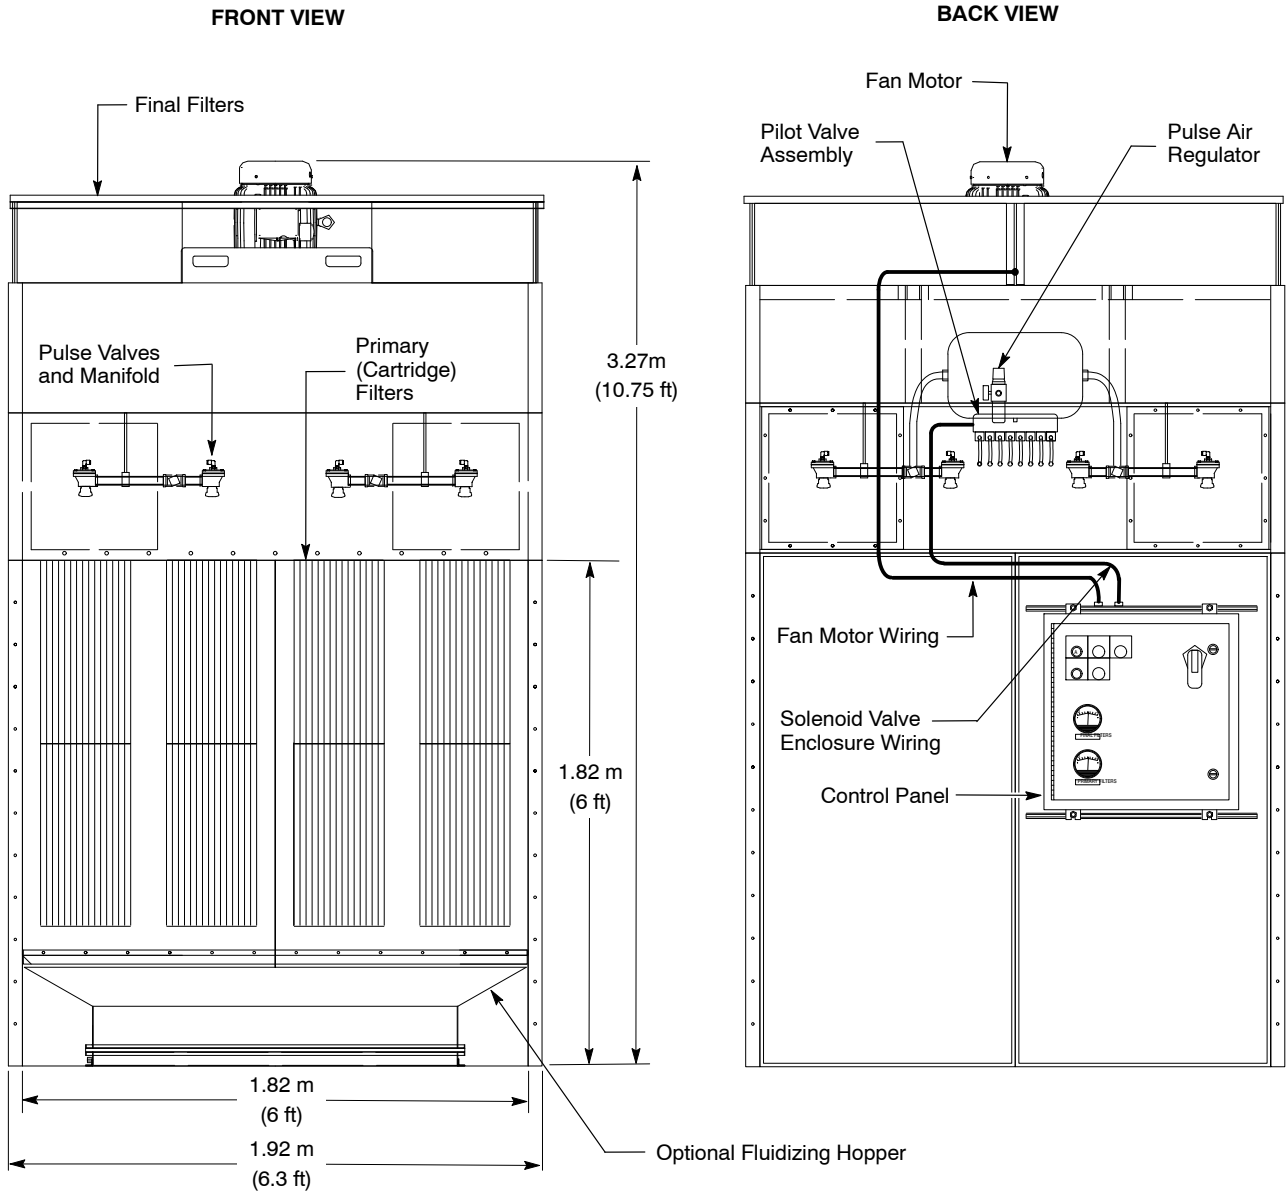

Figure 1 Typical Lean Cell Components
See Figures 1 and 2 and refer to Table 1.
7. Mount the control panel, pilot valve assembly, and regulator onto the desired side of the collector module. Figure 1 shows these components mounted onto the back side.
2. See Figure 1. Connect the compressed air supply to the filter/regulator.